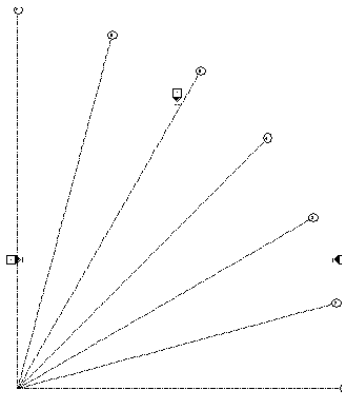

Figure 3-59 The radial grid lines with varying angles
10. Repeat steps 5 to 9 to create the remaining five grid lines that emerge from the start point of the first grid line. The temporary dimensions that you will consider to create the five radial grids are : **30°, 45°, 60°, 75°, and 90°**, refer to Figure 3-59.